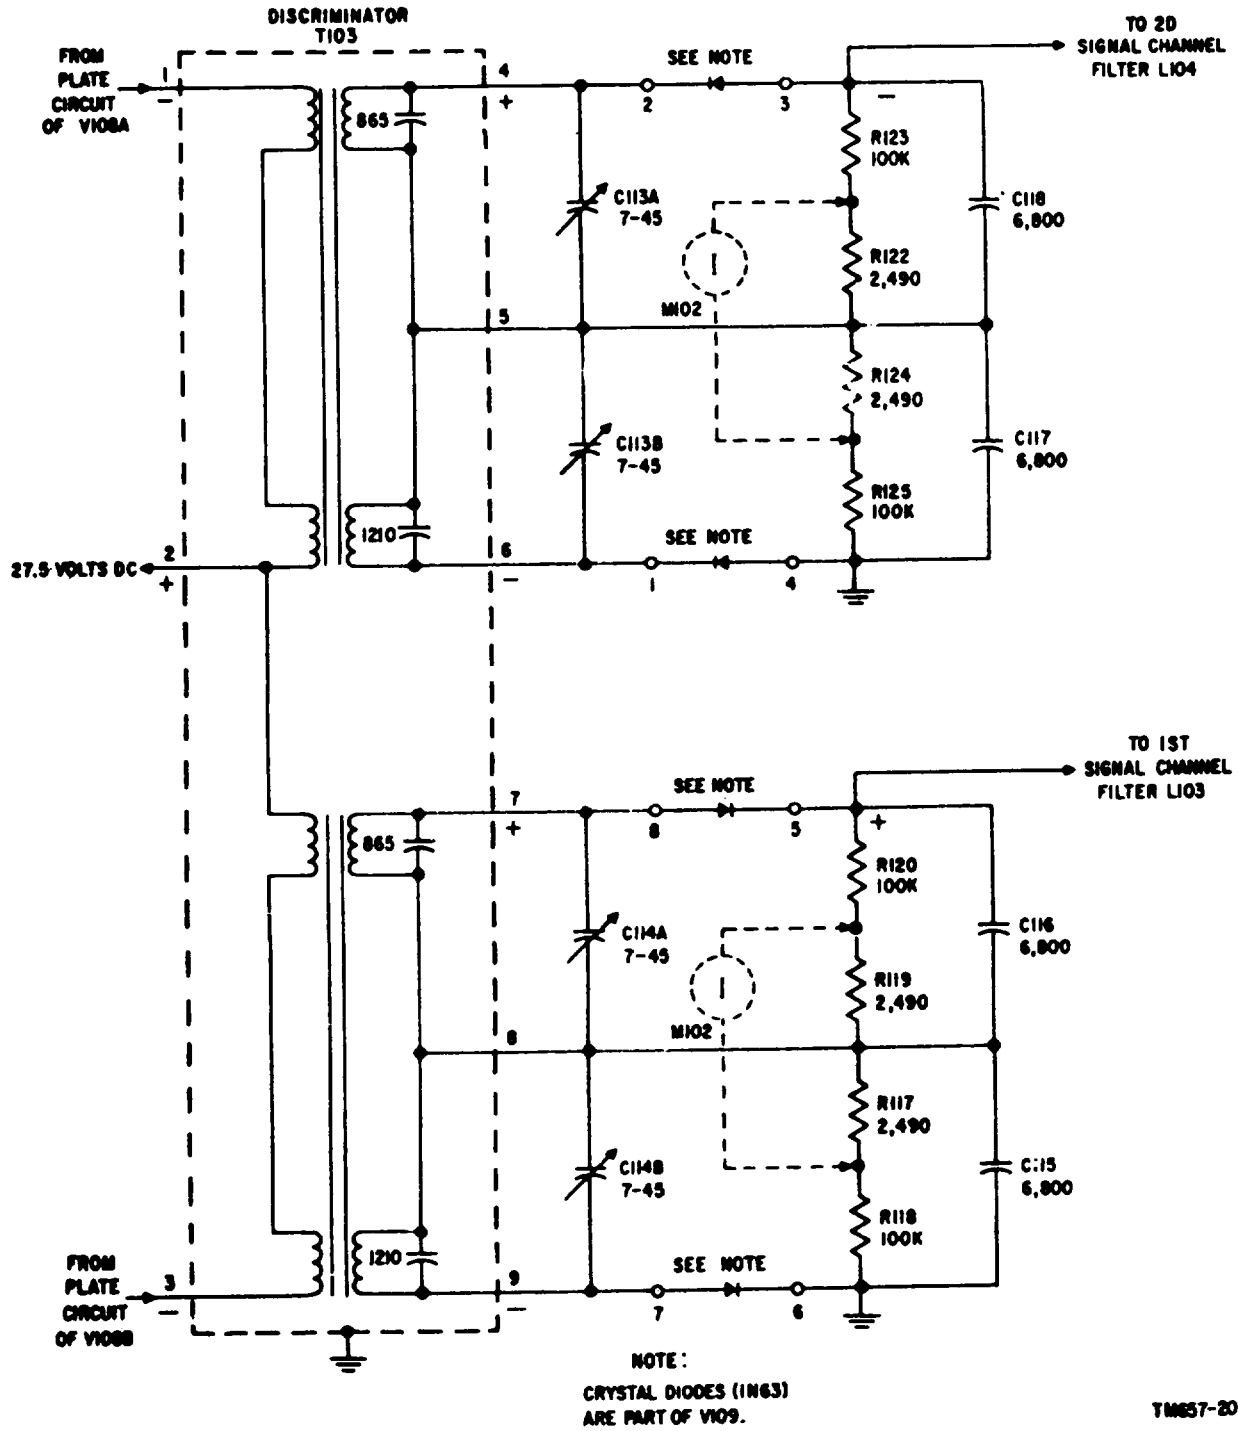

Figure 10. Dual discriminator channels, functional schematic diagram.
13. Dual Discriminator Channels (fig. 10)
(fig. 10)